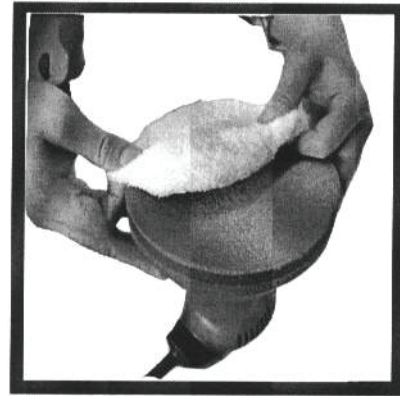

Fig. 1
- 2.1 Place a clean application bonnet securely on the pad as shown (Fig. 1)
- 3.1 Place a clean polishing bonnet on the pad as shown (Fig. 1).